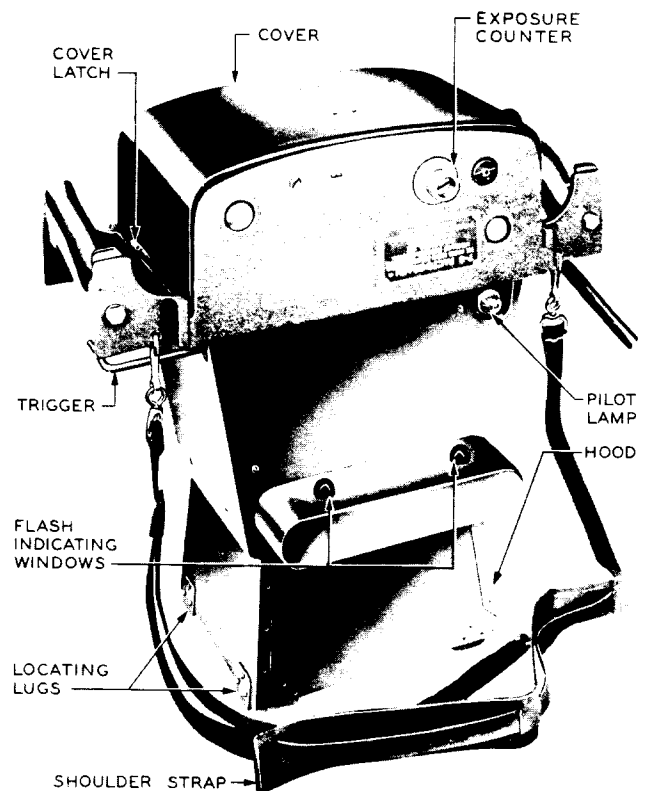
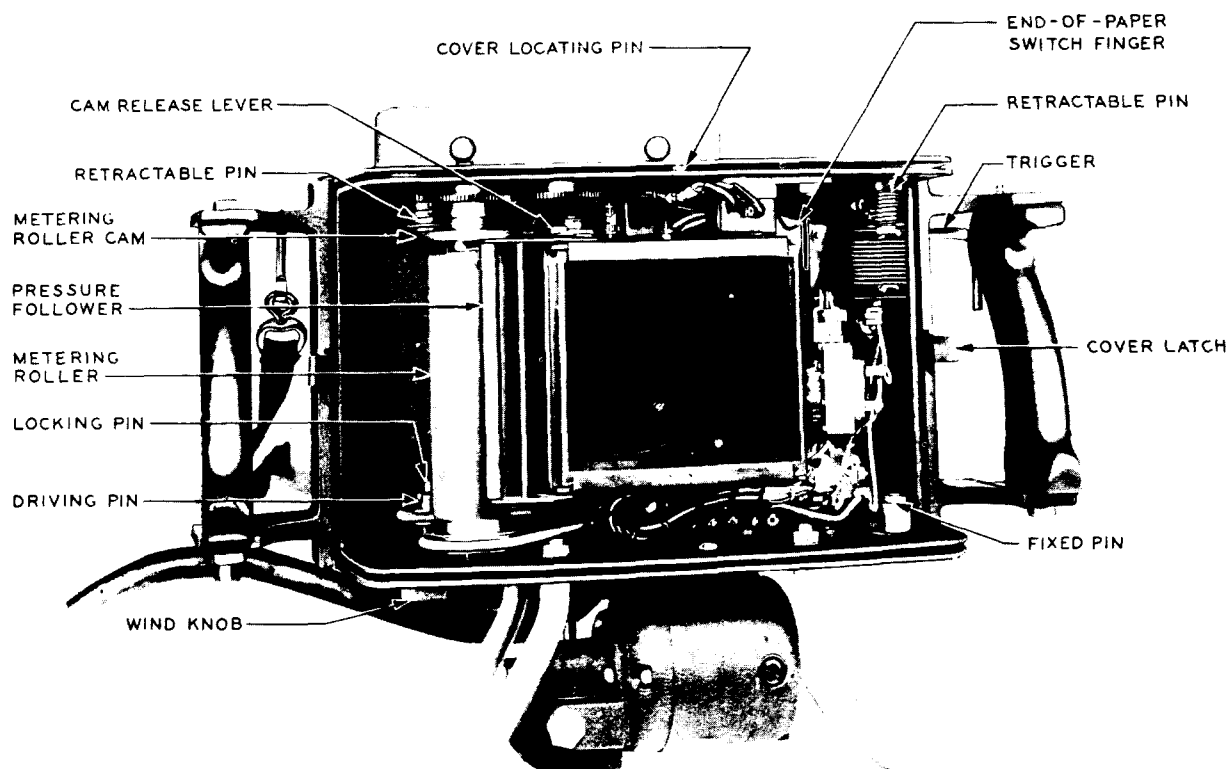
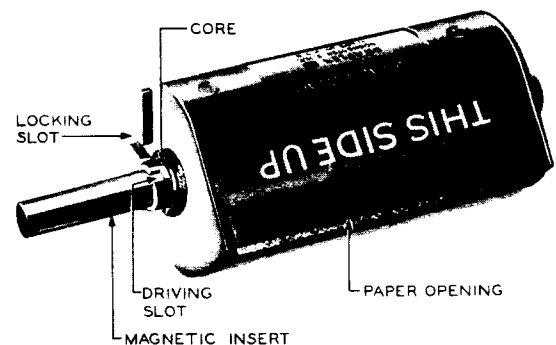

Fig. 4 - Camera With Cover and Shoulder Strap in Place
Fig. 5 – Camera With Cover Removed
Fig. 8 – Empty KS-16148 Cassette (34394-G1 cassette) With Magnetic Insert Part Way in Core
age regulating knob on the power unit so that the indicator of the associated meter is within the green range on the meter scale. Check that the pilot lamp on the camera lights (Fig. 4).
4.05 Make sure that the switch on the power unit is in the OFF position and the voltage regulating knob is set to ZERO. This is advisable for safety reasons and to avoid the possibility of line voltage changes subjecting circuit components to excessive voltage when the switch is again turned on. Place the camera with the hood down so that the locating lugs on the edges of the hood rest on the floor, as shown in Fig. 4. Release the camera cover latches and remove the cover from the camera. Remove the empty cassette from the trigger side of the camera (Fig. 5) and put it aside for use as covered in 4.09. To do this, push the cassette against the retractable pin adjacent to the trigger, tilt the cassette slightly, and lift
4.09 Make sure that there is a magnetic insert in the hollow core of the empty cassette which was removed from the camera as covered in 4.05. The magnetic insert should have been inserted in this cassette as covered in 5.09 upon completion of previous use of the camera. The magnetic insert is provided to pull the metal strip on the leading edge of the paper against the core when the paper is inserted into the cassette. This facilitates engagement of the hole in the paper adjacent to the metal strip with a lug projecting from the core which is necessary for winding the paper on the core. Fig. 8 shows a cassette with the magnetic insert part way in the core. This figure also shows the cassette locking slot and driving slots referred to in 4.11.
the retractable pin shown in Fig. 5. Rotate the cassette to move the paper opening away from the roller sufficiently to clear the metering roller cam, and push the cassette against the retractable pin. Then position the cassette so that the locking slot shown in Fig. 8 engages the locking pin in the bottom of the camera (Fig. 5) and the core is against the end of the driving pin. Turn the wind knob on the camera until the driving pin lugs engage the driving slots in the core of the cassette. Check that the cassette is locked in position by the locking pin. Then turn the wind knob counterclockwise to take up any remaining slack in the paper.
4.13 Move the cam release lever (Fig. 5) toward the metering roller until the lever releases the cam and the motor starts. Release the lever and note that the paper is drawn from the loaded cassette, under the guide plate, over
the metering roller, and into the second cassette without binding. Mount the cover on the camera, taking care that the slot in the cover engages the cover locating pin shown in Fig. 5. Make sure that the hole in each cover latch engages the associated pin on the cover.
4.14 Operate the camera three times to bring unexposed paper into position for taking the first photograph. In operating the camera, pull and release the trigger and wait until the motor stops before starting the next operation. Note that both flash indicating windows (Fig. 4) are momentarily illuminated by the flash lamps each time the camera operates. Depress the screw in the center of the exposure counter to disengage the counter gearing and turn the counter, as necessary, to set it to 80. Release the screw and check that the counter gearing is engaged.
5.07 Release the cover latches and remove the cover from the camera. Move the cam release lever (Fig. 5) toward the metering roller and hold it in this position until the motor stops. The motor is stopped by the end-of-paper switch when the switch finger is released by the cutout near the end of the paper. Turn the switch on the power unit to its OFF position and set the voltage regulating knob to ZERO.